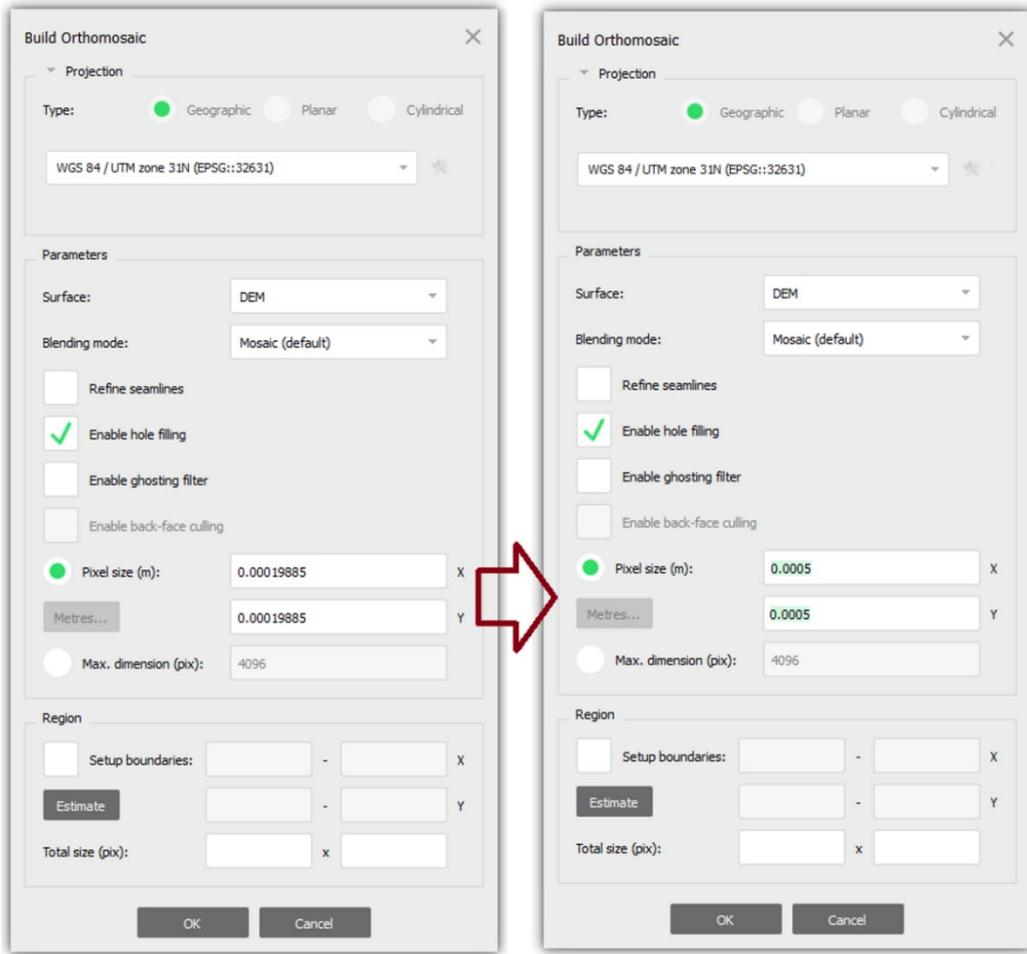

Figure 4.24 Agisoft Metashape screenshots showing ‘Build Orthomosaic’ settings with ‘Pixel size’ values updated.
1. Workflow → Build Orthomosaic (Figure 4.24)
Note: As with the DEM, the software will default to the finest resolution possible to build the orthomosaic based on the resolution of the underlying imagery. Given the specs of our cameras, pixel size tends to be around 0.0002 m (Figure 4.24, left). At that resolution, it may take hours to build the mosaic. For time and storage efficiency, we build the orthomosaics with a pixel size of 0.0005 m (Figure 4.24, right), a resolution amenable for most of our data applications.